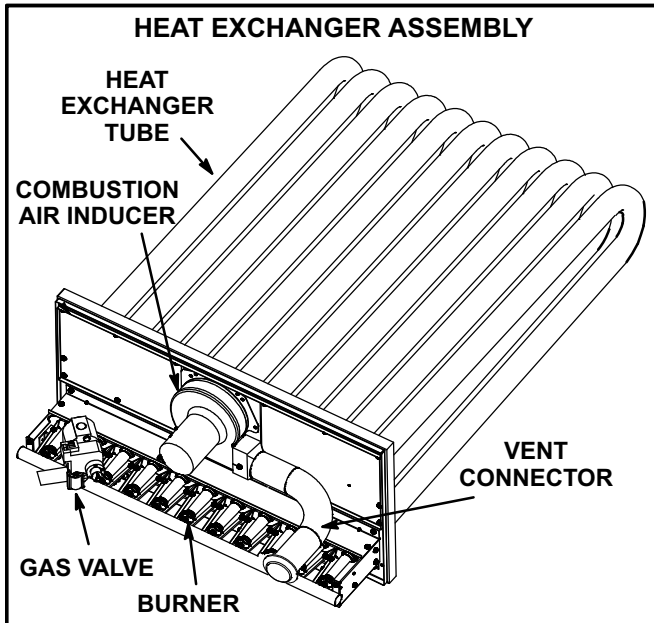

FIGURE 22
- 3- Remove and retain screws securing combustion air inducer to flue box. Remove vent connector. See figure 22.